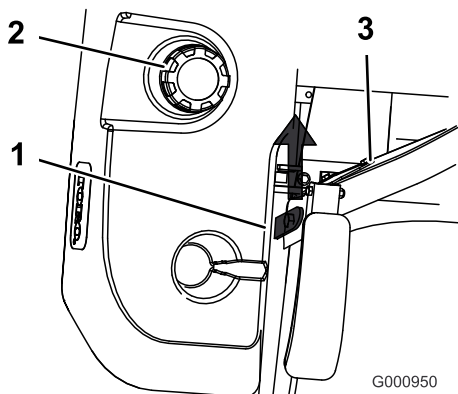

Figure 13
3. Raise the seat up (Figure 13).